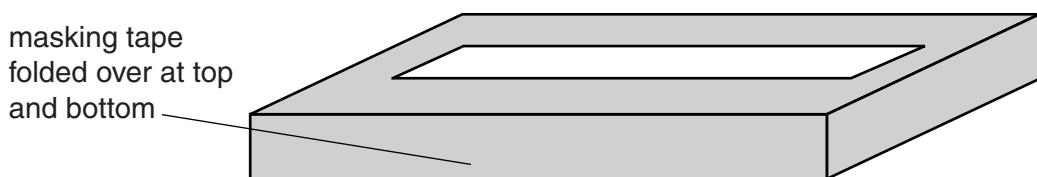

Fig. 1.1
2. Eleven of the slides should be stacked together. Masking tape should then be wound around the edges of the stack and folded over the top and bottom of the stack, so that the candidate is unable to see how many slides are in the stack. This is shown in Fig. 1.1.